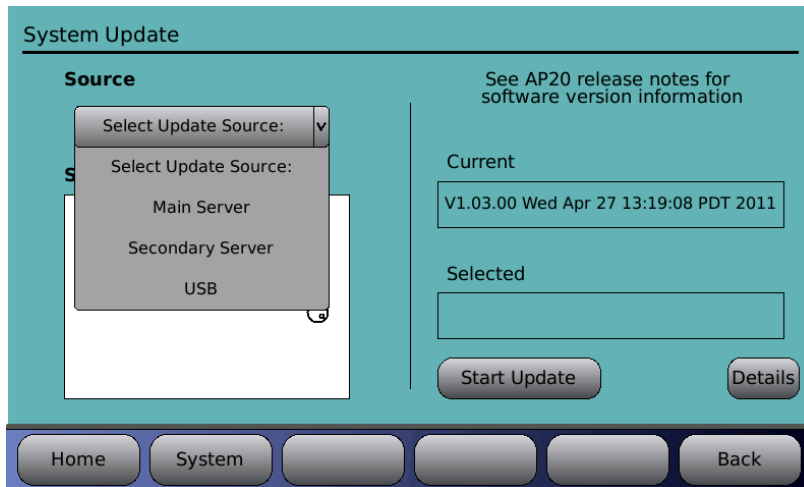

Figure 28. System Software Update Screen
3. Insert the USB drive into the USB slot on the front panel of the AP20, choose **Select Update Source > USB** (see Figure 28), select the update file and press the **Start Update** button.